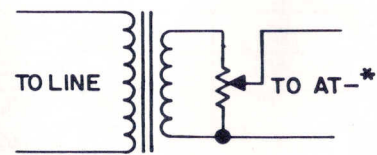

Fig. 4 Tapping an Audio Distribution Line for Obtaining an Input to Model AT-*.
- Inputs to the AT-* can be from a Jerrold Model AFT-300 tuner, from any output tap on a background music amplifier, or any similar source. Additional input can be provided directly via a low-output microphone with the AT-* SOUND gain control set at near maximum; or, where a microphone is used remotely and interchangeably with a tuner, via a preamplifier between the microphone and the Audio-Trol. A relay can be used for remote switching. A further possibility is the tapping of an existing balanced audio distribution line by means of a step-down transformer and a pad or potentiometer (see fig. 4).